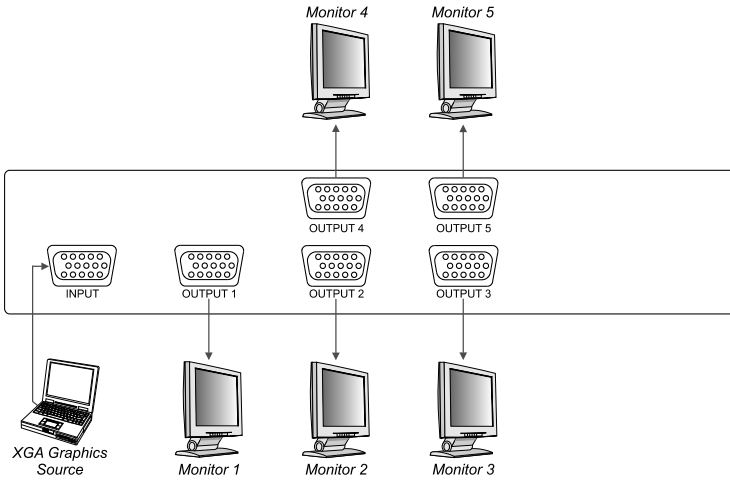

Figure 5: Connecting the VP-5xl to 5 Monitors
To output the XGA signal from a laptop's digital graphics card to up to 5 monitors using a **VP-5xl** (as the example in Figure 5 illustrates), do the following:
4. Connect the power cord² (not illustrated in Figure 5).